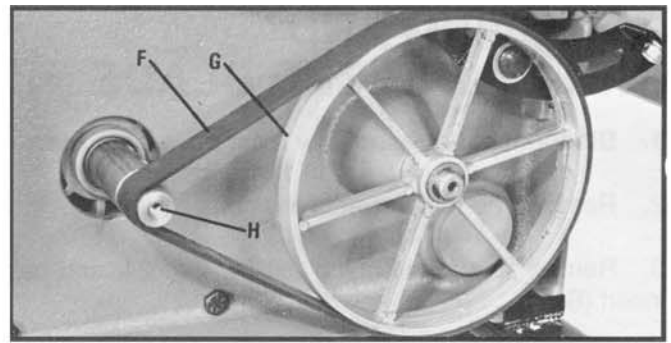

Fig. 29
6. Reassemble retainer (C) Fig. 29, and button head screw (B). Tighten screw (B) securely.